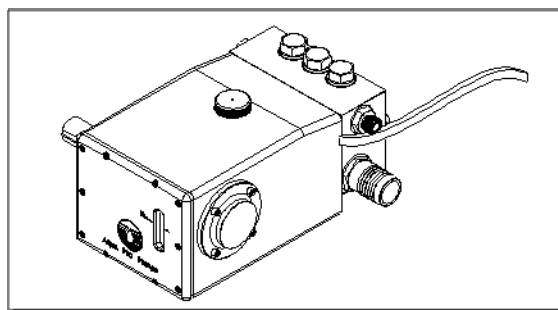

Fig. 2: Manifold Assembly Removal
Remove the 2 manifold nuts (53), see Fig.13, with a 15/16" socket wrench or Combination Wrench. Loosen the manifold assembly by prying off the manifold using the slots in the crankcase as shown in Fig. 2. Set the manifold assembly aside in a clean work area. If the manifold assembly locating dowel pins (50) fall out, reinsert them into the manifold alignment pin hole.